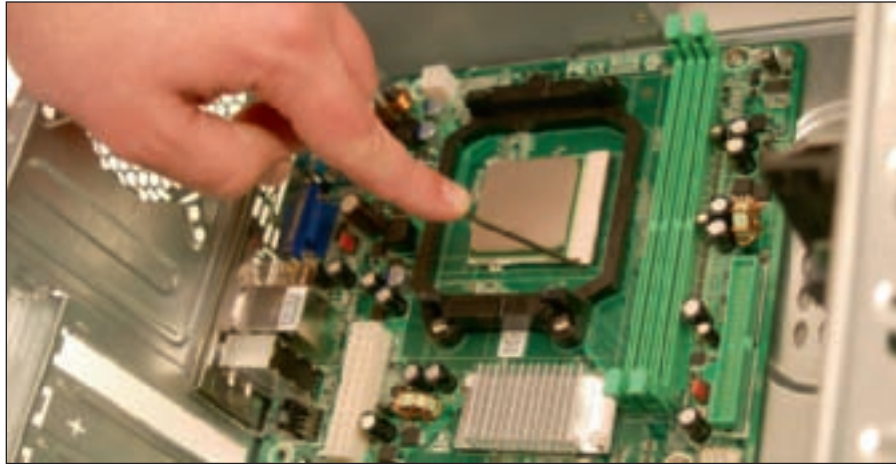

Figure 6-45 Lower the lever into place, which puts pressure on the processor
5. Press the lever down and gently into position (see Figure 6-45).